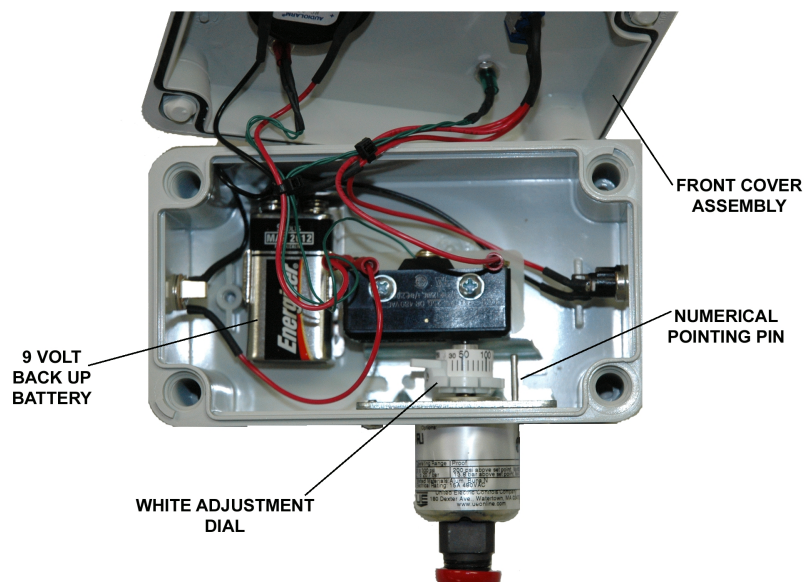

FIGURE NO. 2
Locate a suitable place to mount or install the Model 8063801 unit and secure by threading the 1/4" NPT connection to the proper mating pipe size. Use ONLY THE FLAT AREA ON THE PRESSURE SWITCH to secure and tighten the unit. DO NOT OVER TIGHTEN - USE THREAD TAPE. Should the factory pre-set level be satisfactory, the unit is ready to operate by pressurizing the system and turning the "ON-OFF" Switch to the "ON" position. If pressure is above preset alarm level setting, the green LED should illuminate. Should you need to adjust the switch to some other setting, carefully loosen the four (4) screws located at the four corners of the housing and carefully lift off front cover to expose the pressure switch and internal wiring/battery (See Figure No. 2). Locate the white adjustment dial located at the base of the pressure switch. Note: The numbers located on the adjustment dial are for approximation only - DO NOT assume the setting noted on the dial is the alarm set pressure. Adjust system pressure to alarm set point level desired and turn adjustment dial until the unit just activates the alarm. Slowly increase the system pressure above this setting until alarm stops. Slowly lower system pressure until alarm activates. Note system pressure, and if this is the desired alarm set point, the unit is ready for operation. Readjust if necessary and replace front cover taking care not to pinch any wiring between housing and cover.